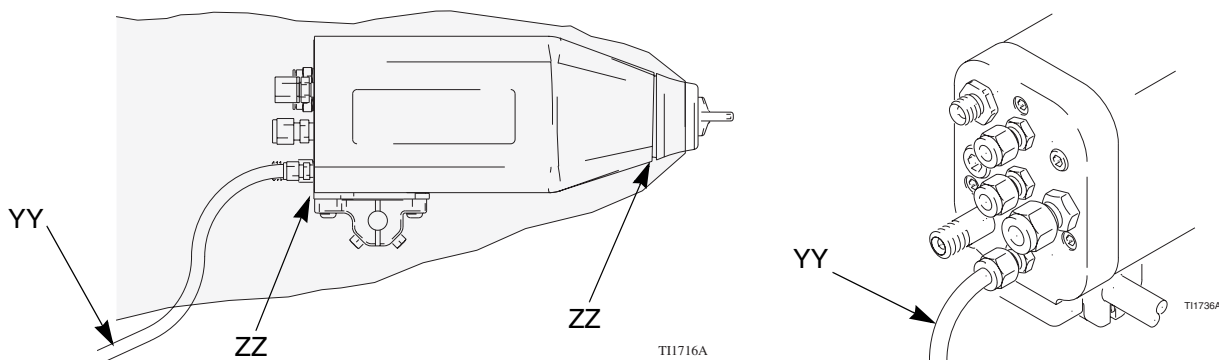

Fig. 18. Check for Fluid Leakage
During operation, periodically check the manifold exhaust tube (YY) and both ends of the gun shroud (ZZ) for the presence of fluid. See FIG. 18.. Fluid in these areas indicates leakage into the shroud, which could be caused by leaks at the fluid tube connections or fluid packing leakage.